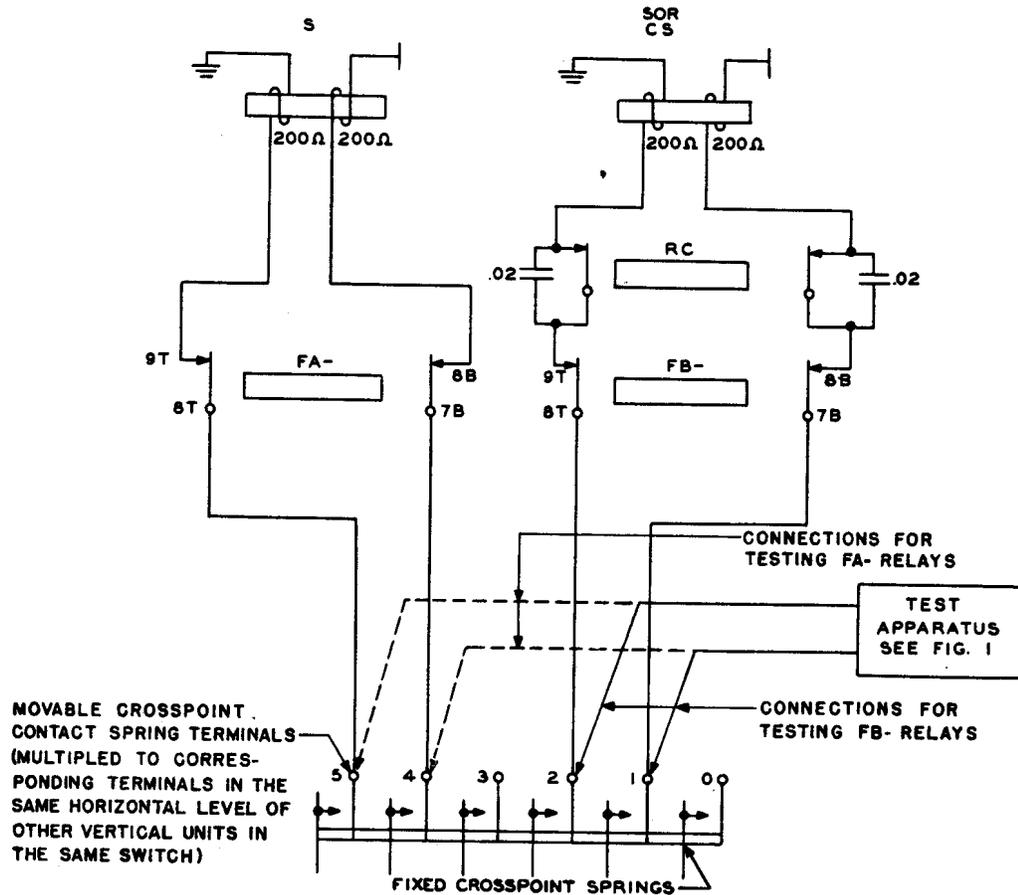

Fig. 2 - Connection for Making Banjo-noise Tests on FA- and FB- Relays
- 4.04 At the rear of the frame, connect the No. 419A test connectors to the terminals of the trunk switch associated with the talking circuit contacts on the first FA- or FB- relays to be checked, as shown in Fig. 2, starting at the FB99 relay. These talking circuit contacts are located on springs 7B-8B and 8T-9T on both the FA- and FB- relays. Terminals 1 and 2